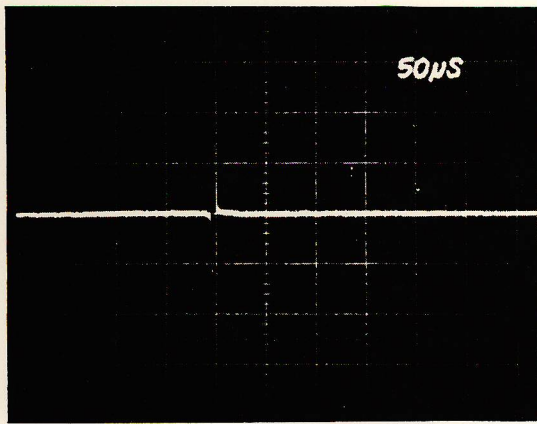

FIGURE 10 INDEX TIMING
- e. Observe the timing between the start of the sweep and the first data pulse. This should be $200 \pm 100 \mu$ sec. If the timing is not within tolerance, continue on with the adjustment. Refer to Figure 10.